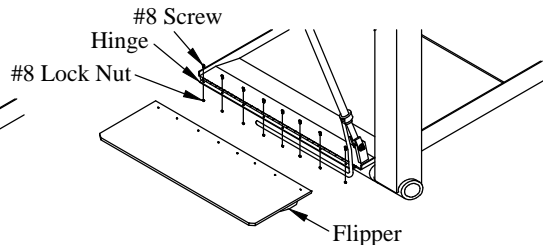

Figure 28: Flipper hinge hardware.
12. **Attach** the flipper to the hinge on the platform using eight (8) 8-32x1/2" screws and 8-32 nylon lock nuts (Figure 28).